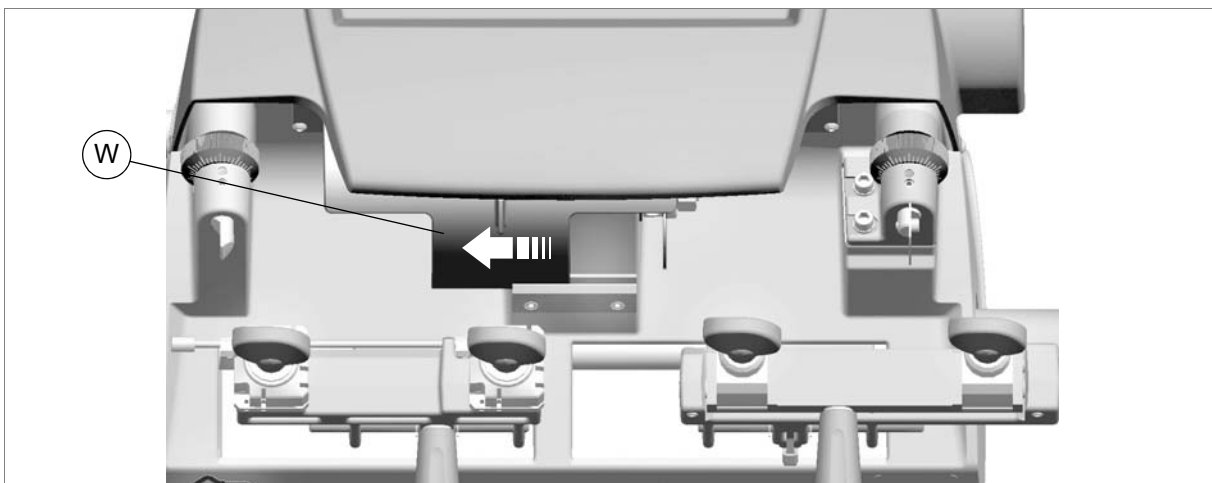

Fig. 12
- to operate the right-hand carriage, take shield (W) to the left (fig. 12)